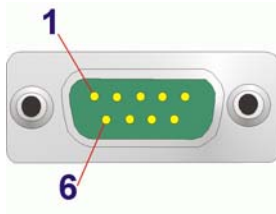

Figure 3-30: Serial Port Connector Pinouts
- CN Pinouts:** See **Table 3-29** and **Figure 3-30**